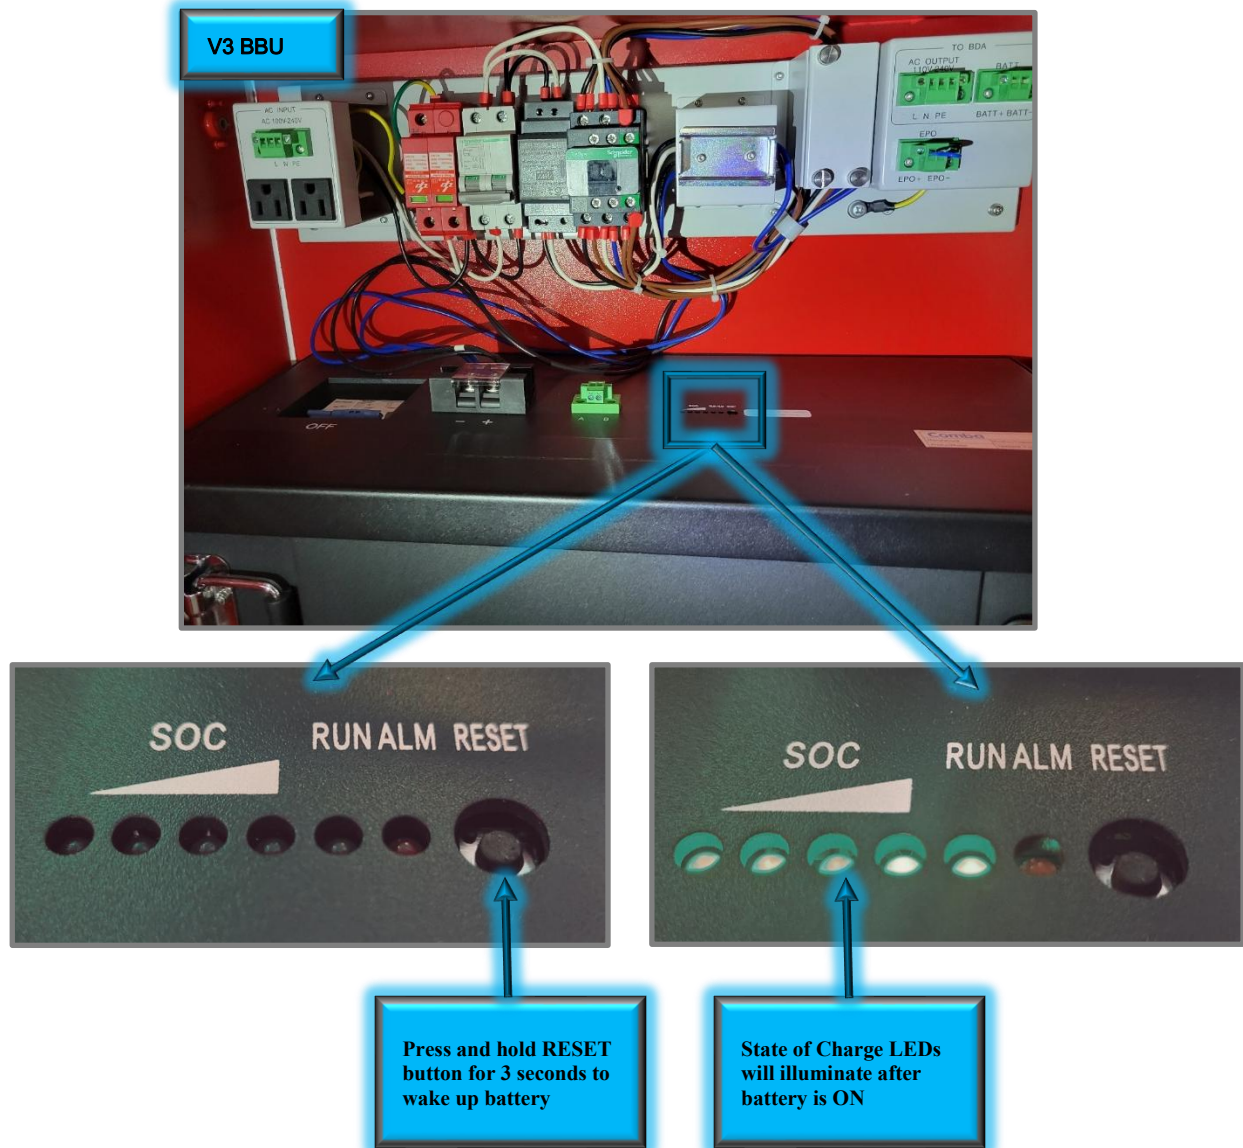

Figure 91: V3 BBU – Waking Up/Turning ON Battery
- Push and hold the recessed RESET button located on top of the LiFEPO4 battery for approximately 3 seconds to wake up the battery. Once the SOC (State of Charge) LEDs begin to illuminate, release the RESET button immediately (NOTE: Holding the RESET button longer than approximately 5 seconds will cause the battery to go back into sleep mode. If this occurs, repeat the step to “wake-up” the battery). See Figure 91 below.
- Push and hold the recessed RESET button located on top of the LiFEPO4 battery for approximately 3 seconds to put the battery to sleep. Once all the SOC (State of Charge) LEDs begin to extinguish, release the RESET button immediately (NOTE: Holding the RESET button longer than approximately 5 seconds will cause the battery to wake back up. If this occurs, repeat the step to “Put battery to sleep”). See Figure 91 for more details.
- The Battery has an ALM LED which illuminates RED if any issues are detected. To reset/clear the battery alarm, push and hold the recessed RESET button located on top of the LiFePO4 battery for approximately 10 seconds to reset the Battery MCU and clear any Battery Alarms. Once all the SOC (State of Charge) LEDs begin to re-illuminate, release the RESET button immediately. See Figure 91 for details on where the RESET button is located.